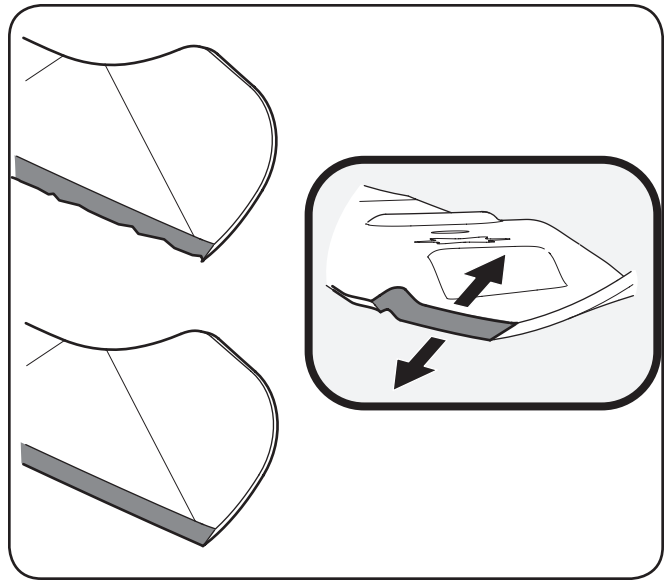

Figure 7-7
4. To properly sharpen the cutting blades, remove equal amounts of metal from both ends of the blades along the cutting edges, parallel to the trailing edge, at a 25° - to 30° angle. Always grind each cutting blade edge equally to maintain proper blade balance. See Figure 7-7.